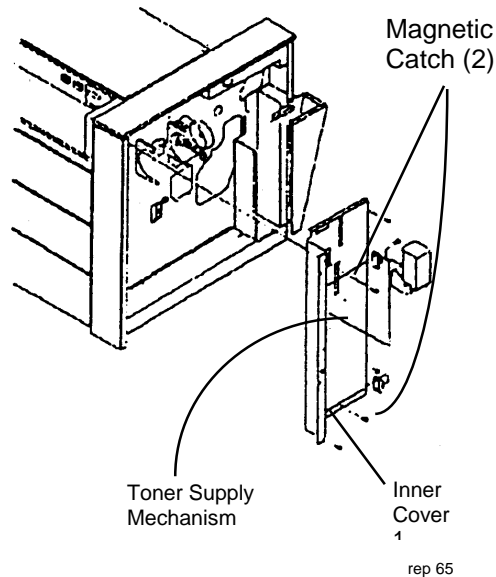

Figure 1. Removing Inner Cover 1
1. (Figure 1): Remove the Toner Supply mechanism and the Magnetic Catches at the right side of the machine. Remove Inner Cover 1.